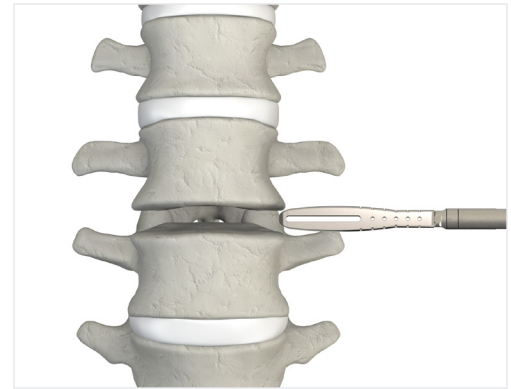

Figure 4
- ▲ Carefully impact the sizer into the disc space. Check the correct fit of the Sizer with the aid of fluoroscopy and palpation (Fig. 4 & 5).